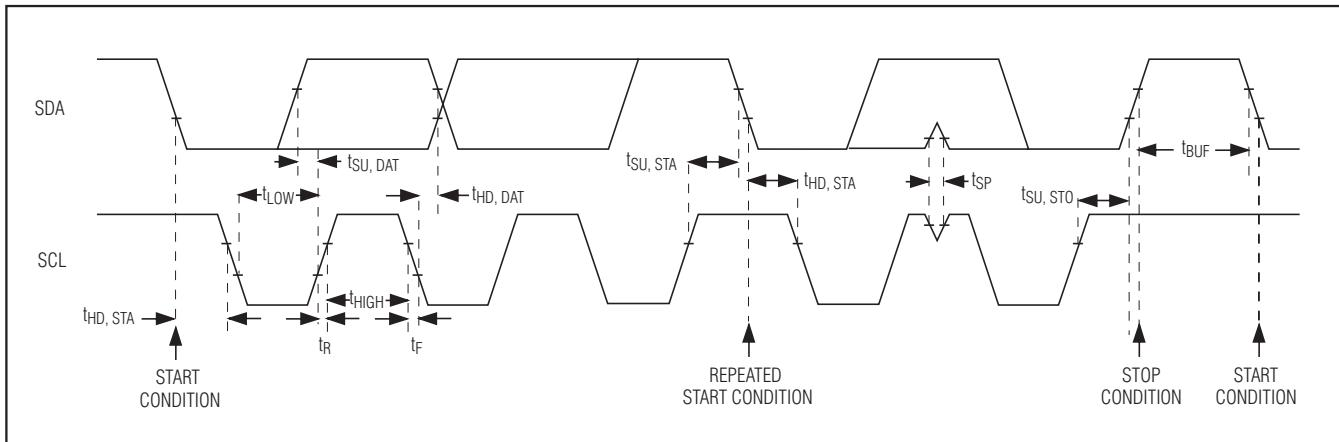

Figure 6. I²C Serial-Interface Timing Diagram
The MAX9670/MAX9671 feature an I²C/SMBusTM-compatible, 2-wire serial interface consisting of a serial-data line (SDA) and a serial-clock line (SCL). SDA and SCL facilitate communication between the MAX9670/MAX9671 and the master at clock rates up to 400kHz. Figure 6 shows the 2-wire interface timing diagram. The master generates SCL and initiates data transfer on the bus. A master device writes data to the MAX9670/MAX9671 by transmitting a START (S) condition, the proper slave address with the R/W bit set to 0, followed by the register address and then the data word. Each transmit sequence is framed by a START and a STOP (P) condition. Each word transmitted to the MAX9670/MAX9671 is 8 bits long and is followed by an acknowledge clock pulse. A master reads from the MAX9670/MAX9671 by transmitting the slave address with the R/W bit set to 0, the register address of the register to be read, a REPEATED START (Sr) condition, the slave address with the R/W bit set to 1, followed by a series of SCL pulses. The MAX9670/MAX9671 transmit data on SDA in sync with the master-generated SCL pulses. The master acknowledges receipt of each byte of data. Each read sequence is framed by a START or